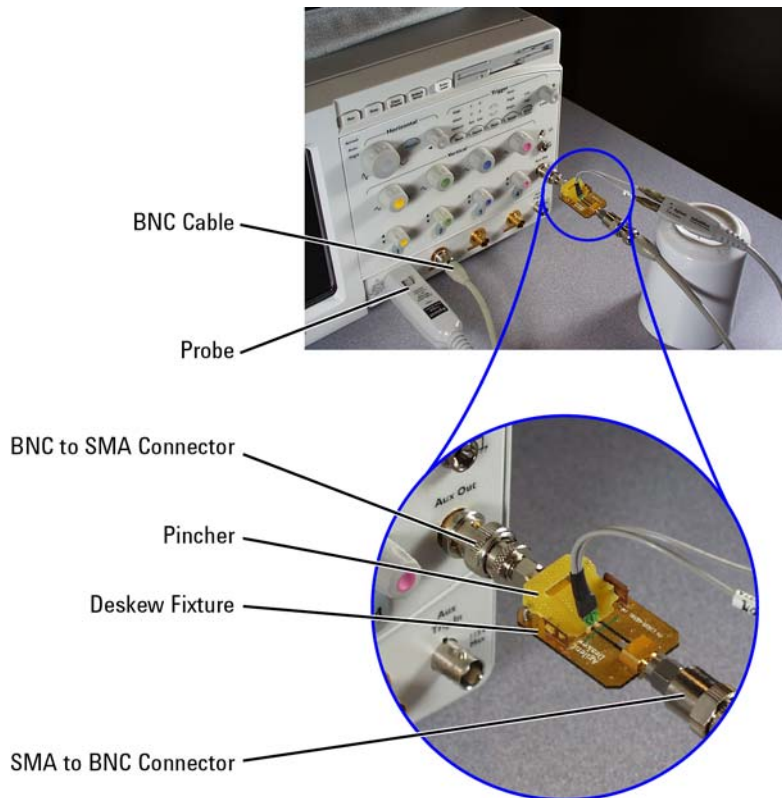

Figure 89 Connecting the Probe
- 1 As shown in Figure 89 on page 127, connect BNC (male) to SMA (male) adaptor to the deskew fixture on the connector closest to the yellow pincher.